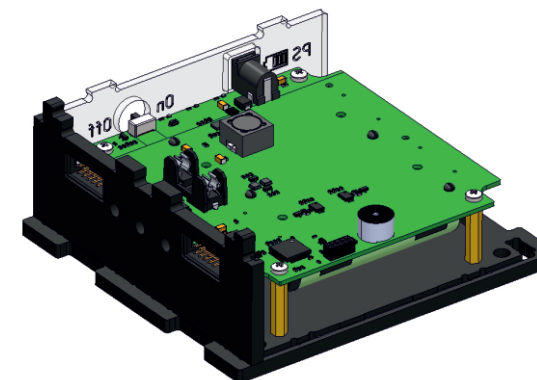

Fig. 6: Mounting the circuit board
5) Mount the circuit board together with the side wall, transparent panel and accumulators on the bottom base plate. To do that, align protrusions of the side wall and transparent panel with holes in the base plate and latch them. Fix the board using M3x6 cylindrical-head screws (Fig. 6):